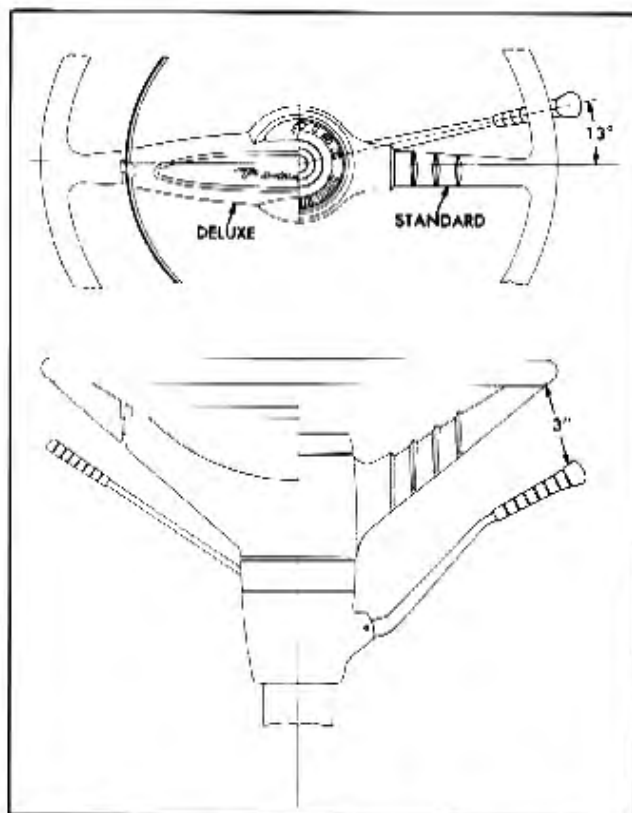

Fig. 7-3 Gearshift Lever Adjustment
1. When gearshift lever is in neutral position, clearance between lever and steering wheel should be approximately 3" (Fig. 7-3). To adjust, hold transmission selector rod in its rearmost position, (normal position for 2nd and 3rd) and adjust selector rod trunnion for proper gearshift lever position. Lengthen selector rod to move lever closer to steering wheel.